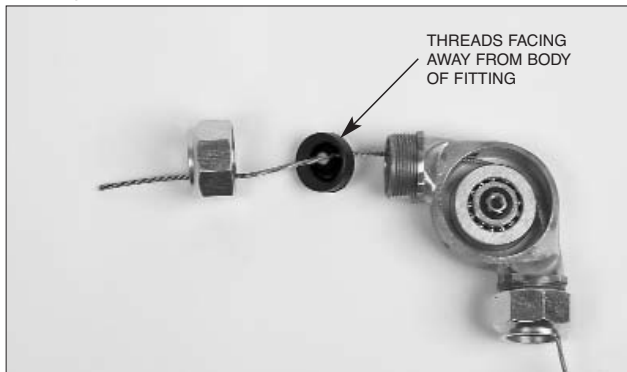

FIGURE 57
2. Thread the stainless steel wire rope through the EMT conduit connector and flexible conduit insert. Make certain thread in flexible conduit insert is facing out toward end of connector. See Figure 57.